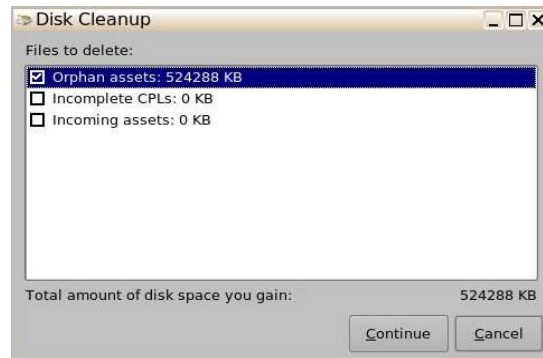

Figure 97: Orphan Assets Size Checklist
- Select any item that shows a size greater than 0KB and click on Continue (Figure 97).